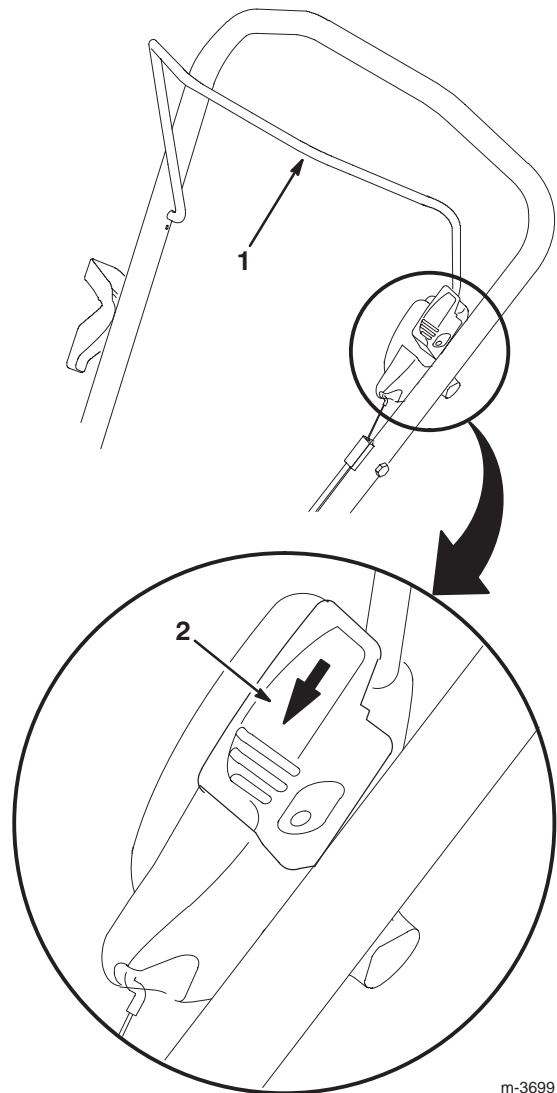

Figure 13
3. Pull control bar toward handle while pushing down slide on control (Fig. 13).